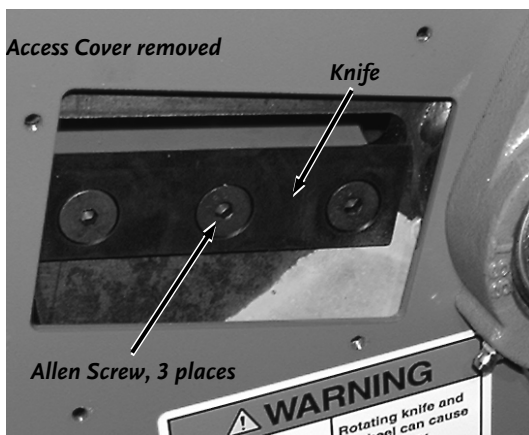

Figure 22
1. Using a 5/16" Wrench, remove the Access Cover (**Figure 22**) on the Chipper Side.